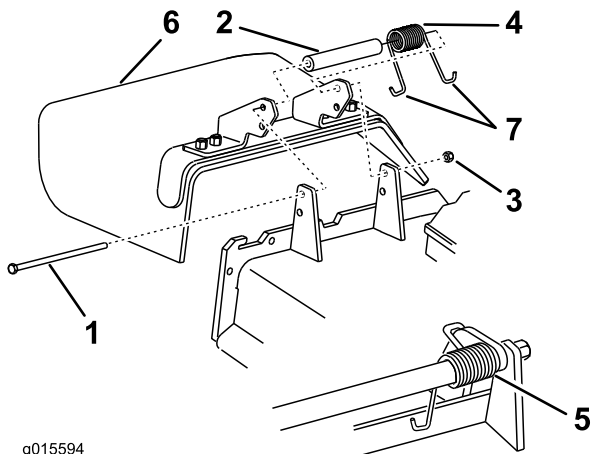

Figure 90
1. Remove the locknut, bolt, spring, and spacer holding the deflector to the pivot brackets (Figure 90).
**Note:** Make sure 1 J-end of spring is installed behind deck edge before installing the bolt as shown in Figure 90.
6. Place 1 J-hook end of the spring around the grass deflector (Figure 90).